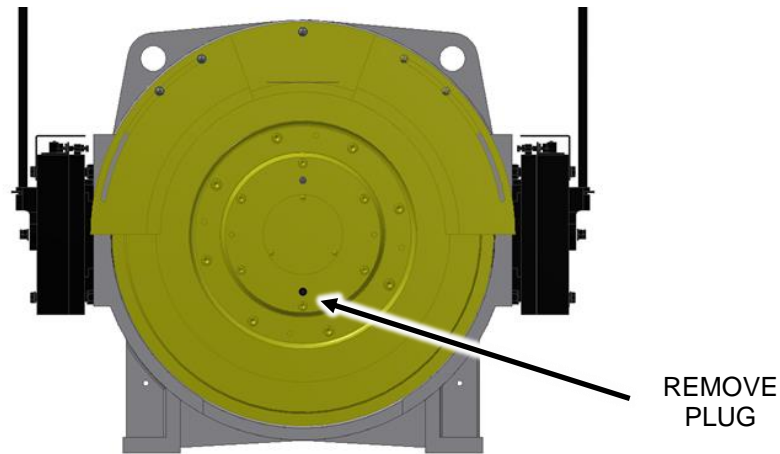

Figure 13
1. To grease bearings, first remove the pressure relief plug on the rotor (front) of the machine. See Figure 13.